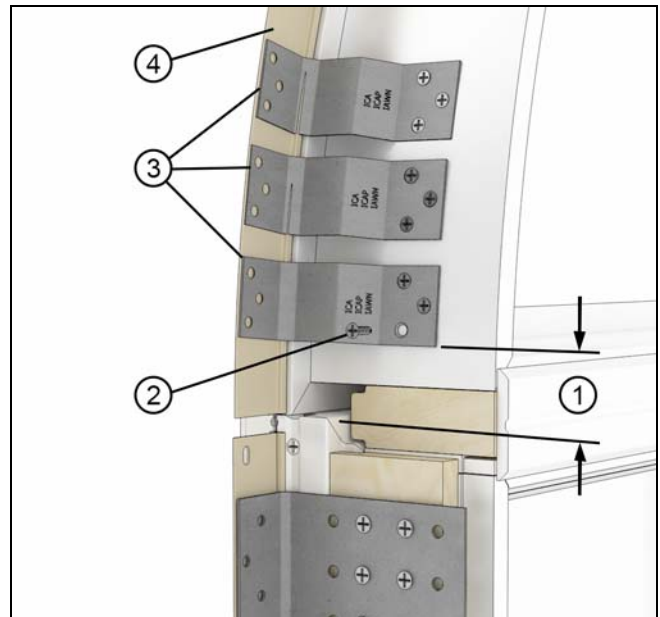

Figure 7
2. At the roundtop, place three roundtop installation clips at each mull point starting 1 1/2" from the mullion. Attach these with three #7 x 5/8" Phillips flat head screws. See Figure 7.